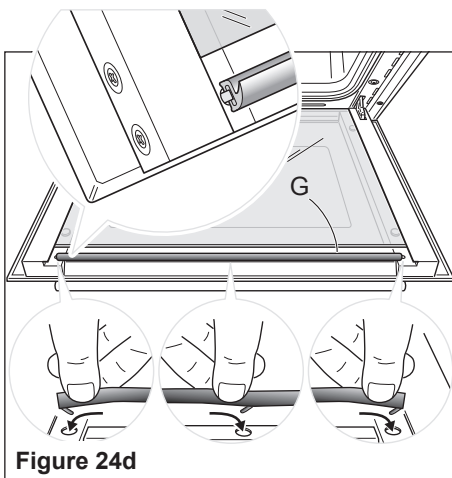

Figure 24d
- Reassemble the seal "G" in the correct way by hooking the no. 3 fixing hooks in the proper holes (fig. 24d).